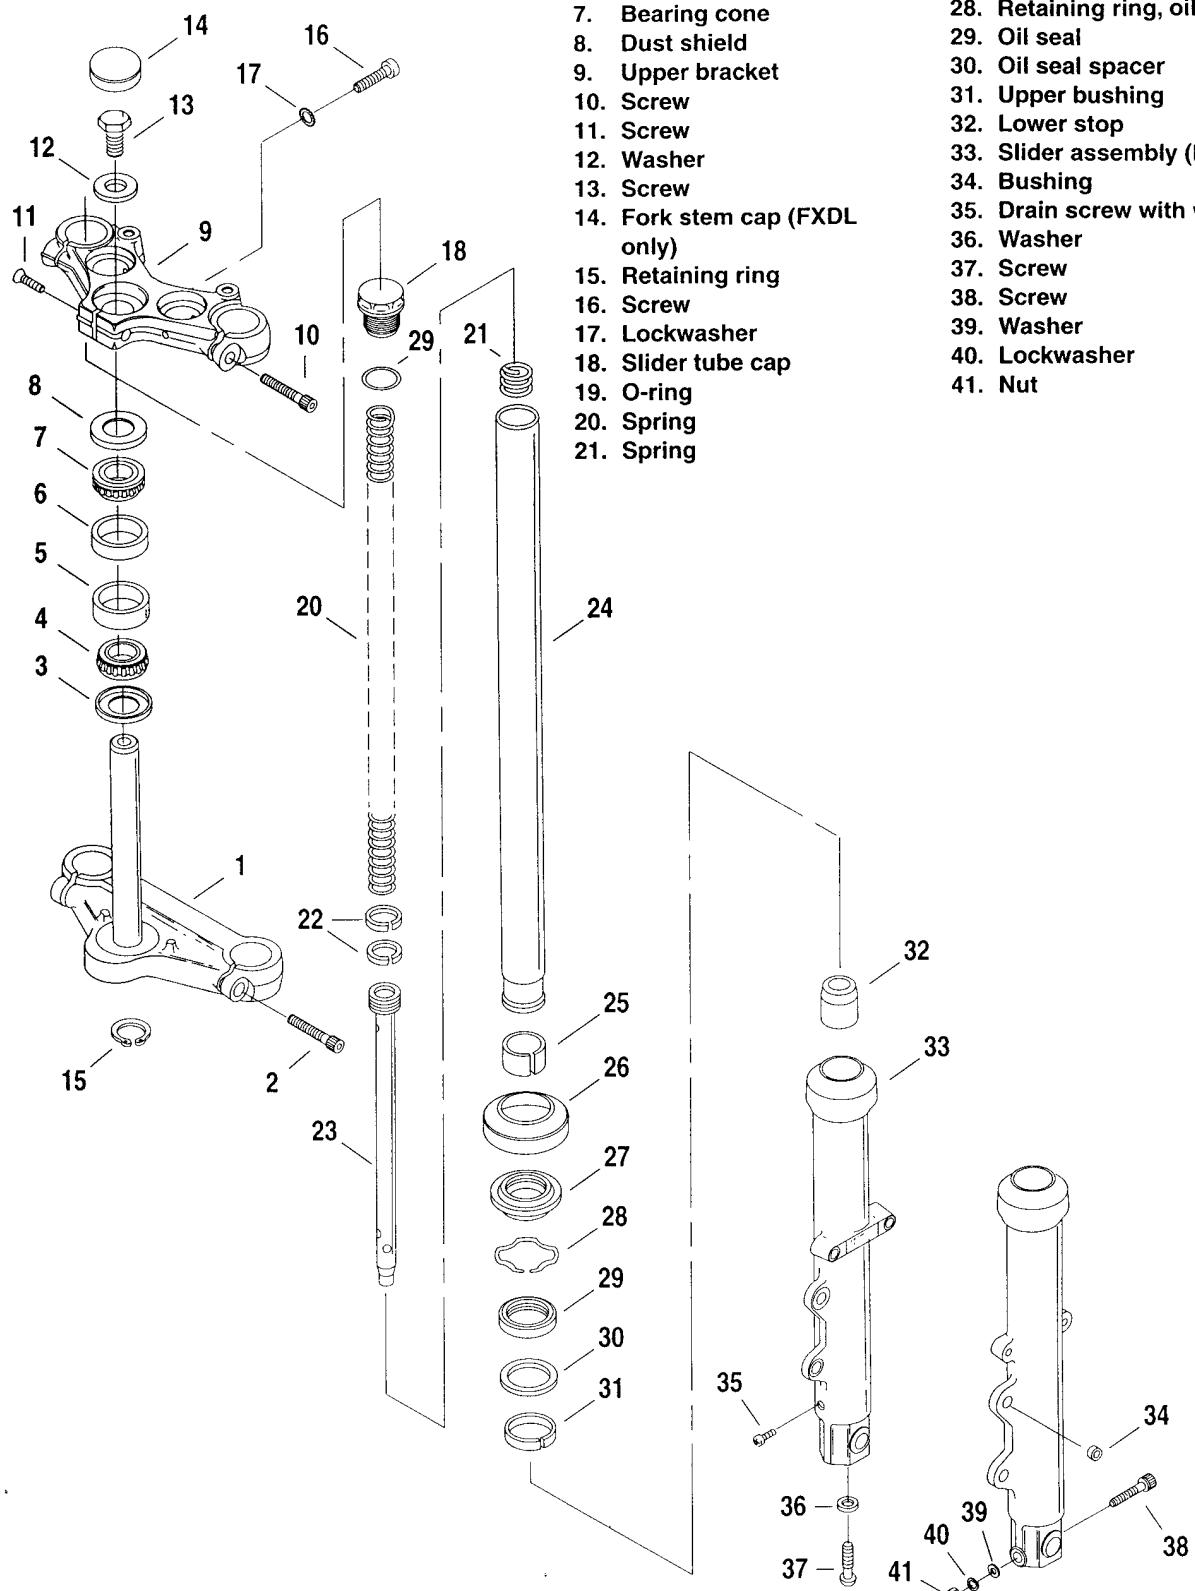

Figure 2-85. Front Fork: FXD and FXDL
4. See Figure 2-85. Loosen screws (2, 10). Do not remove tube caps (18). Slide fork sides downward clear of fork brackets (1, 9).
1. See Figure 2-85. Remove drain screw (35) from slider. Remove tube cap (18) and drain fork oil.
2. Remove O-ring (19) from inner groove in tube cap. Pull spring (20) out of fork tube (24).
3. Remove cover (26), dust seal (27), then compress internal retaining ring (28) and remove the ring from the internal groove at the top of slider (33).
4. Using an Allen wrench, remove screw (37) along with washer from the bottom end of fork slider. Damper (23) and tube (24) can now be removed from fork slider.
3. See Figure 2-85. Inspect both rings (22) on damper tube and replace if worn excessively or damaged.
5. Replace spring (20) if broken.
7. Make sure tube cap O-ring (19) is in good condition, without irregularities, and that it provides proper sealing when in place.
1. See Figure 2-85. If removed, install **new** lower bushing (25), expanding the bushing only enough to fit over slider tube (24). Slide the bushing into its groove with bushing opening oriented to the side.
2. Place spring (20) on damper tube (23), insert damper tube into fork tube.
3. Insert spring (21) into fork tube, tapered end down, and push damper tube through the opening at the bottom end of the fork tube. Place stop (32) over end of damper tube.
1. See Figure 2-85. Insert fork side through lower and upper brackets (1 and 9). Position slider tubes so that each fork tube extends 0.42-0.50 in. (10.7-12.7 mm) from the top surface of upper fork bracket (9) to the top surface of the tube cap (18). Be sure both sides are equal.
2. Position turn signal light brackets upright and tighten upper fork bracket pinch screws to 25-30 ft-lbs (33.9-40.7 Nm). Tighten lower fork bracket pinch screws (2) to 25-30 ft-lbs (33.9-40.7 Nm).